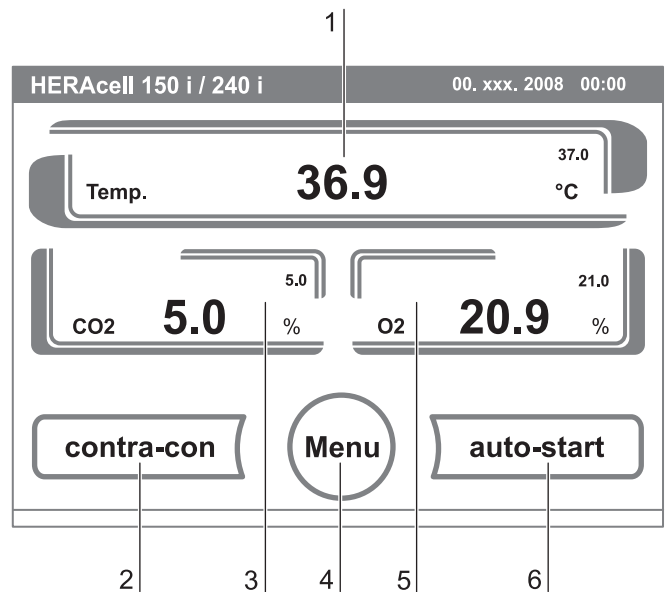

Fig. 30: Pressure-sensitive areas
**Fig. 30:** The control panel works as a touchscreen and can be controlled performing light pressure on the pressure-sensitive areas of the screen using a finger or a blunt pin: